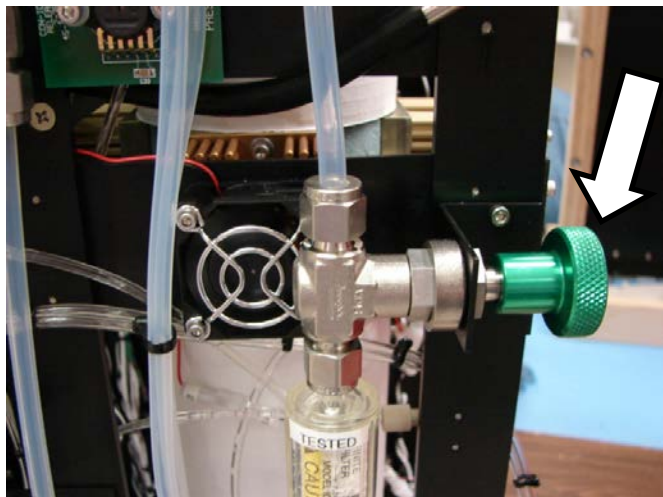
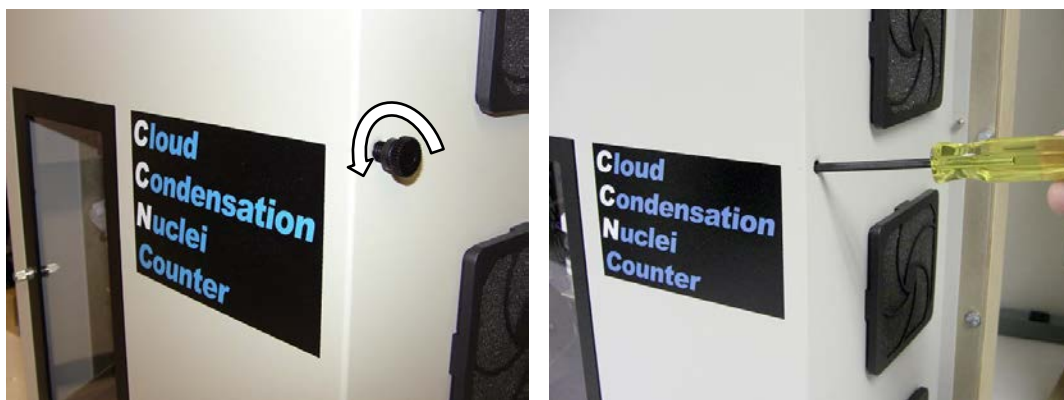

Figure 17: Sheath Flow Metering Valve
Figure 18: Accessing Metering Valve Through Port (Newer CCNs Only)
2. Close the sheath flow metering valve. If you have a unit built before fall of 2011, you will need to remove the instrument cover to access the green sheath flow metering valve (Figure 17). If you have a newer unit, you can access the valve through an access port (Figure 18).